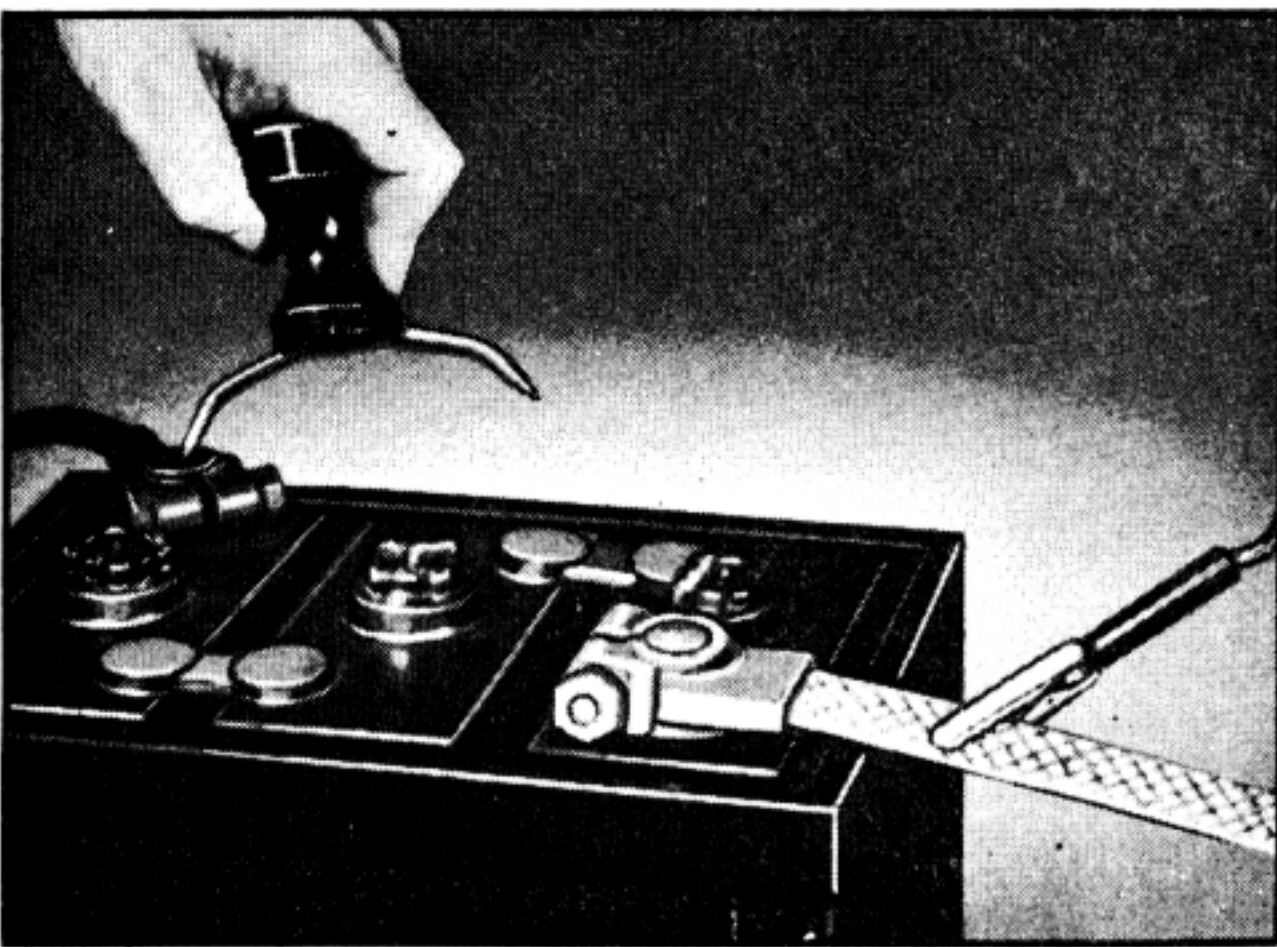

Figure 7: Grounding instrument at battery for voltage comparison.
- (b) Connect alligator clip to grounded terminal and move prod to ungrounded terminal of battery. (Figure 7:)